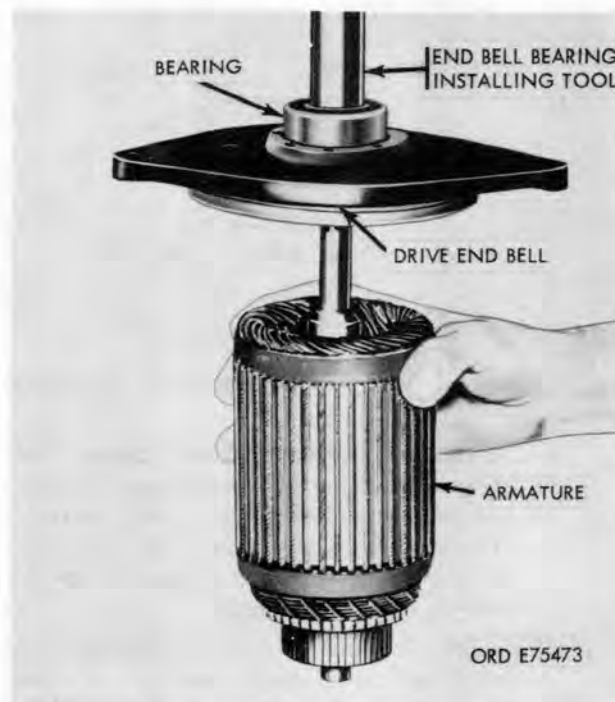

Figure 4-22. Installing drive end bell and bearing.
*b.* Install new corrugated washer in end bell. Position sealed ball bearing in end bell bore with trademark and/or part number toward armature. Install drive end bell and bearing over armature shaft and press bearing and end bell until bearing rests against armature shaft shoulder using improvised end bell bearing installing tool (fig. 4-22) and arbor press. Exercise care to prevent pushing felt washer and retainer from recess.